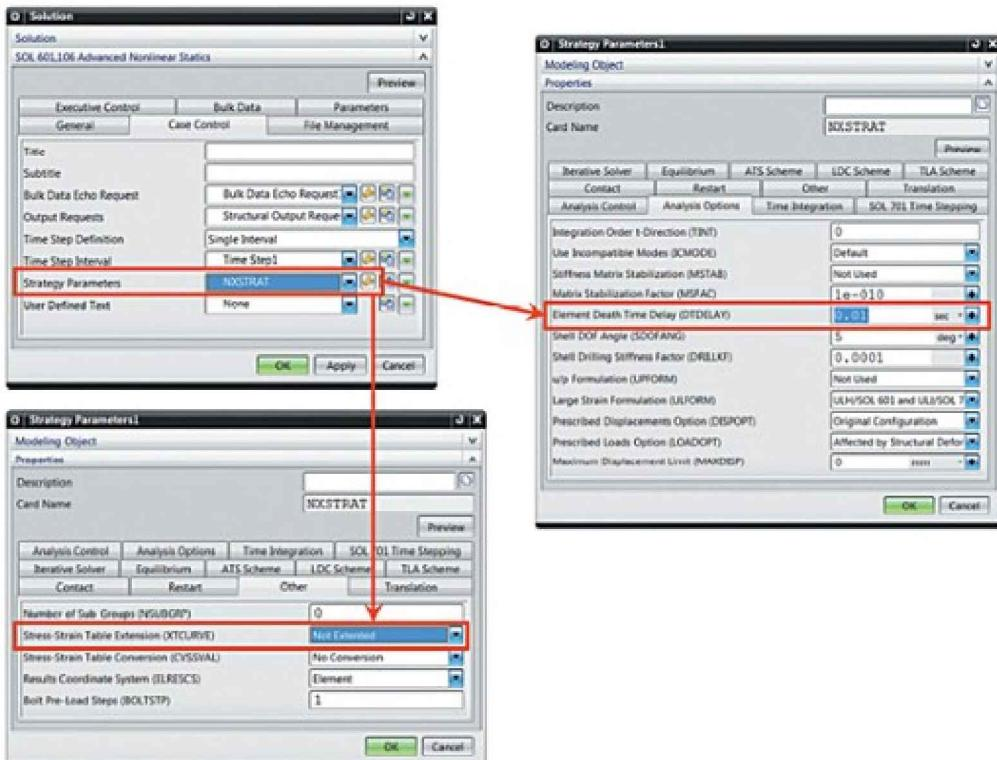

Figure 4.6. XTCURVE and DTDELAY parameters
- The last point corresponds to the point of failure. You can use the *XTCURVE=0* parameter to “remove” elements whose strain values are larger than the values at the point of failure. The *DTDELAY* parameter delays the “removal” of these elements to improve convergence of the solution (Figure 4.6).